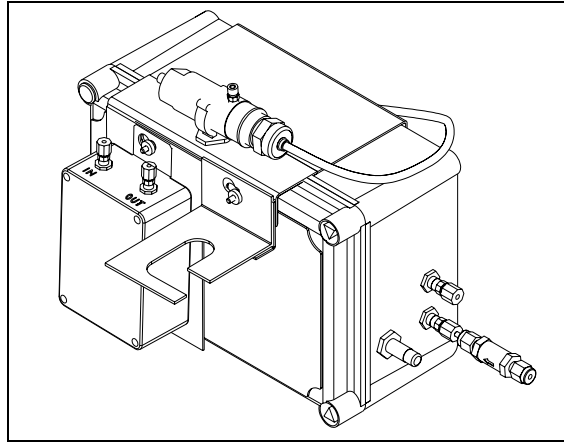

Figure 10
7. Secure the entire assembly by tightening the thumb screws. The entire bracket assembly is now complete and should look like Figure 10.